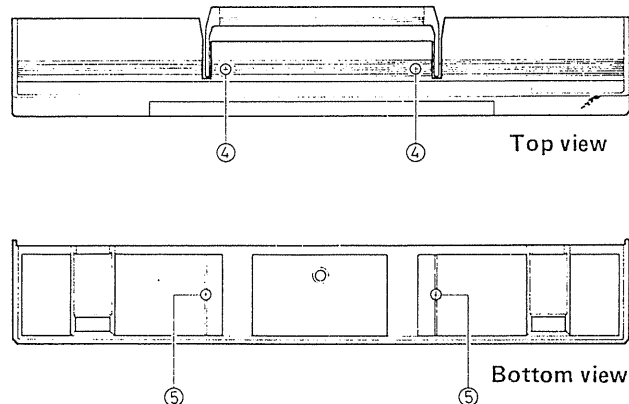

Fig. 6
B. Chassis (with cassette mechanical unit) (Fig. 6, 7)
1. Remove 2 screws ④ – SDSP3008RS (upper side on the front cabinet) and 2 screws ⑤ – SBSF3012R (lower side on the front cabinet).
2. Remove 7 screws ⑥ – SBSF3014C, and a screw – SBSF3030V.
3. Remove 8 connectors ① ~ ⑧.